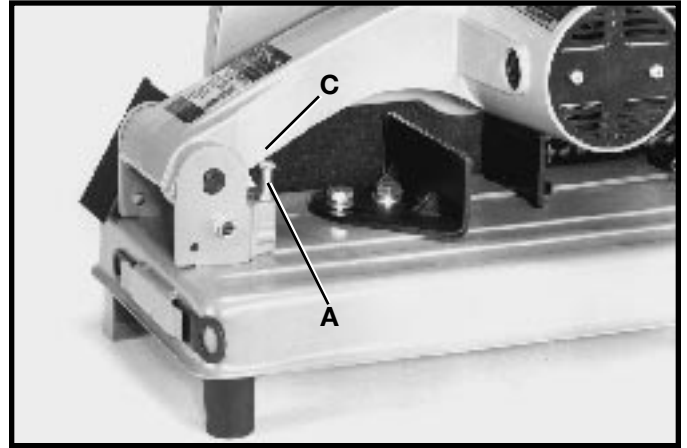

Fig. 15
Fig. 15 illustrates edge of the arm casting (C) contacting stop screw (A), limiting the downward travel of the abrasive wheel. **NOTE:** As the abrasive wheel becomes smaller in diameter (because of wear), the downward travel of the wheel can be increased.